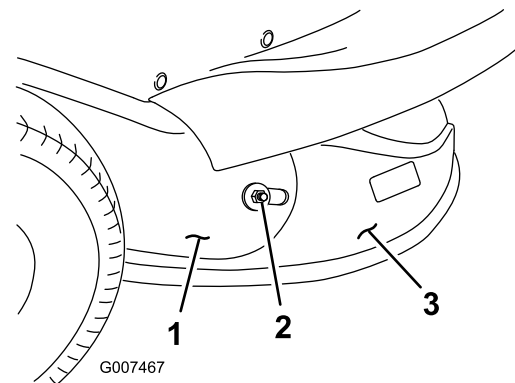

Figure 17
8. Remove the nut and outer washer that secure the discharge chute to the discharge tube (Figure 17).
14. Install the nut and outer washer that secure the discharge chute to the discharge tube (Figure 17).